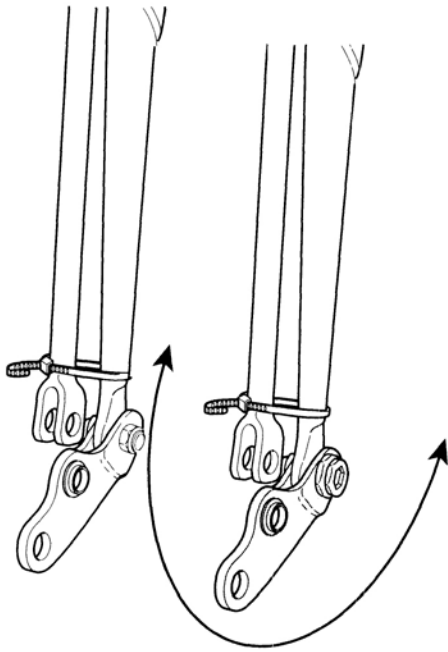

Figure 1-52. Rocker Rotation
9. See Figure 1-52. Using a dial or beam type torque wrench, rotate the rigid pivot stud and rocker through the arc shown. The torque reading should be 25-35 in-lbs (2.8-4.0 Nm).